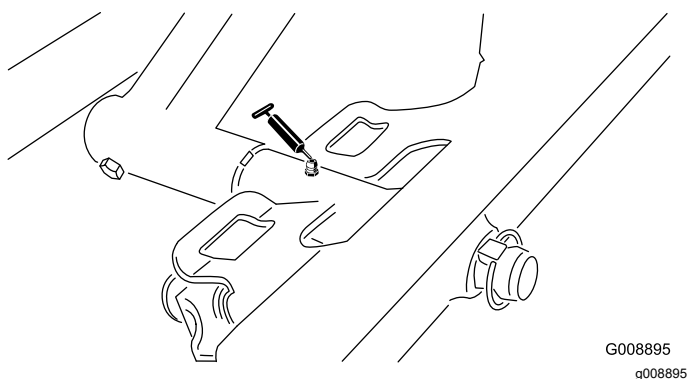

Figure 58
- Front cutting unit pivot (Figure 58)